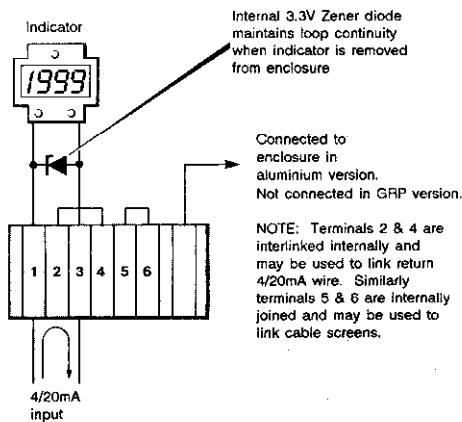

Figure 5 Terminal connections
- vi Connect the field wiring to the terminals as shown in Figure 5. The version in an aluminium enclosure is provided with an earth terminal which is internally connected to the enclosure die-casting. This terminal should be connected to a local earthing point to ensure personnel safety. The glass reinforced polyester (GRP) version has a non-conductive enclosure and a local earth connection is therefore not required. In this version the terminal at the right hand side of the seven way terminal block is fitted with a blank identification tag and should not be used.